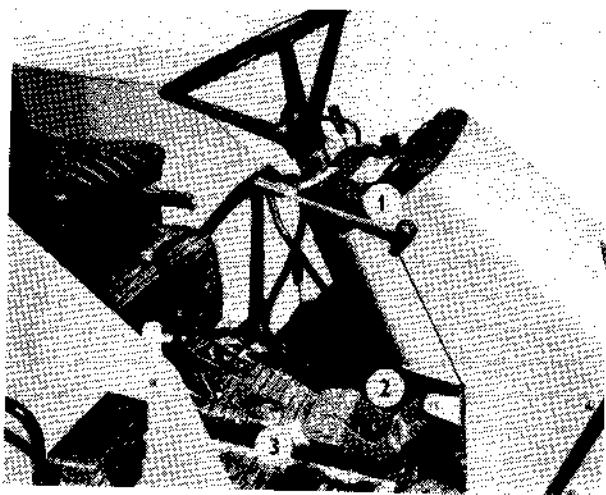

Fig. 17
1. Hand-operated fuel supply control (Fig. 17/1).
2. Foot brake latched pedals (Fig. 17/2). A two-pedal brake system with automatic pressure equalizer is fitted.